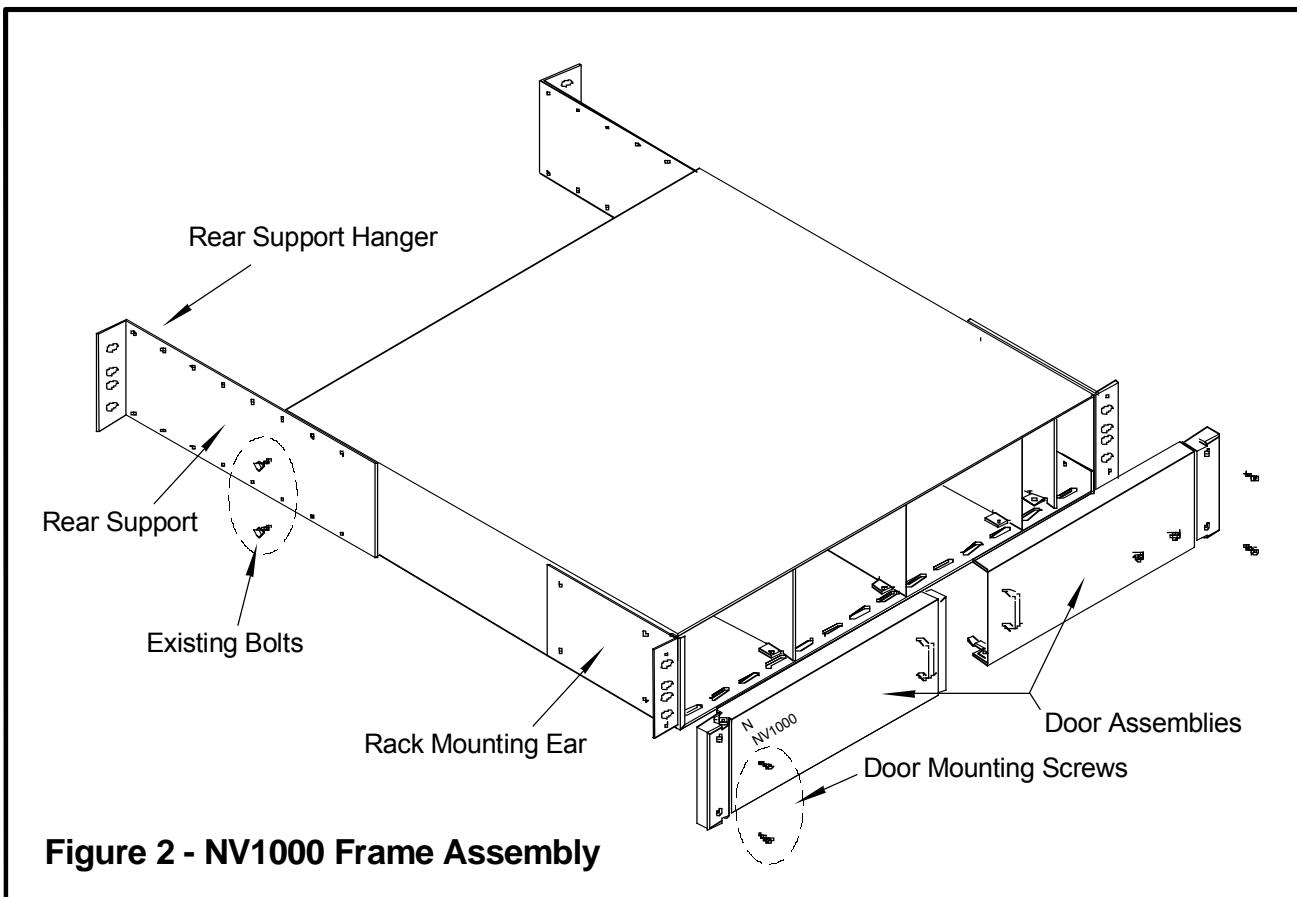

Figure 2 - NV1000 Frame Assembly
- 2. Using the 2.0 mm Allen wrench supplied, remove and set aside the FR1000 frame front door assemblies. See Figure 2 - NV1000 Frame Assembly.
To add rear support, attach the rack-support hangers to the mounting rails in the rear of the rack. Position the hangers to receive the rear supports on the sides of the frame. Referring to Figure 2, remove the rearmost two bolts on each side of the FR1000 frame using a 5.5 mm nut driver (not supplied). Readjust the rear supports as necessary so that they will mate with the rack-support hangers when the frame is placed into position. Replace the bolts and proceed to the next step.